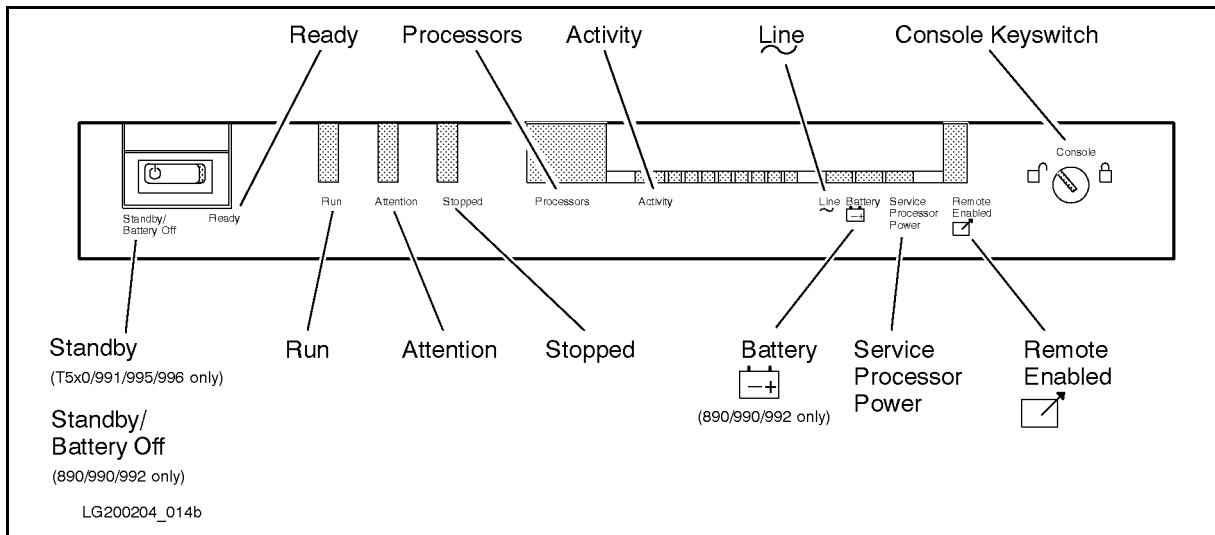

Figure 2-2. Front Panel Indicators and Switches
1. Check LEDs on the front panel of the computer for possible problems (see Figure 2-2):